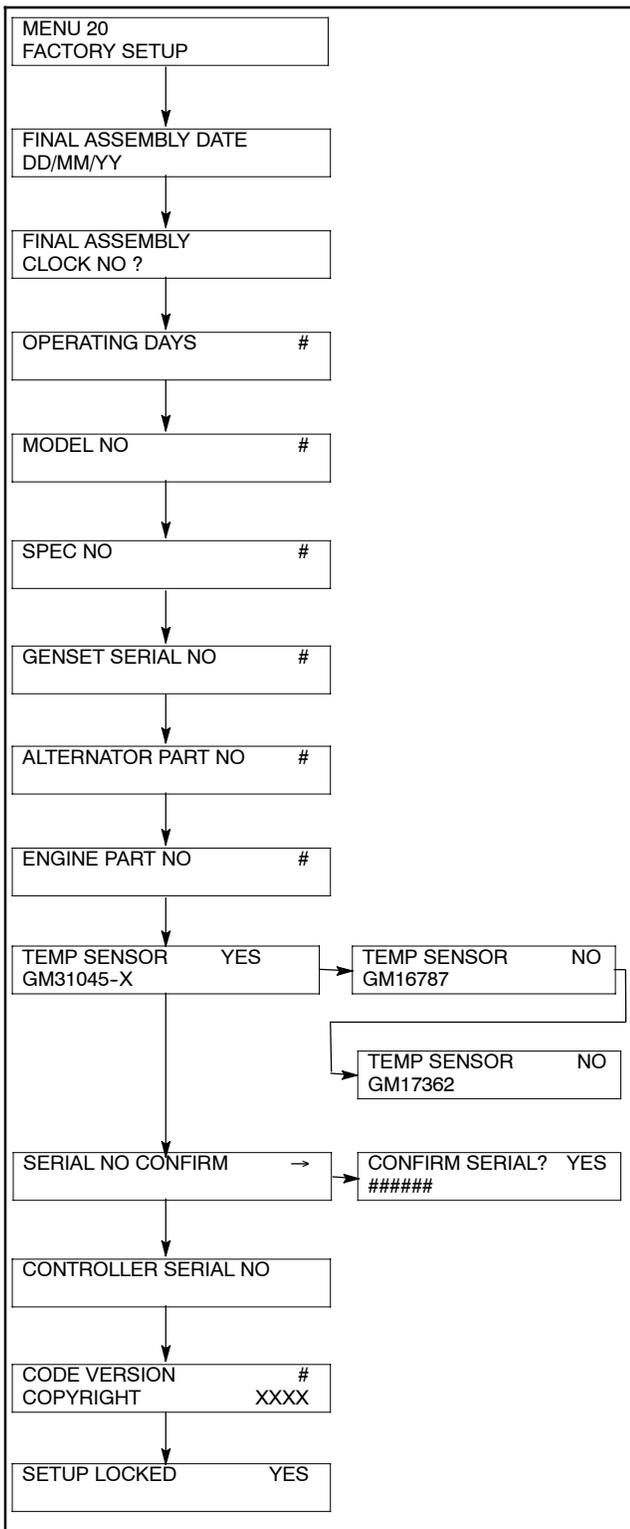

Figure 11 Menu 20, Factory Setup
- 13.4 Use the controller keypad to go to Menu 20, Factory Setup. See Figure 11 for displays.
- 13.9 Go to Menu 20, Factory Setup. See Figure 11 for displays.